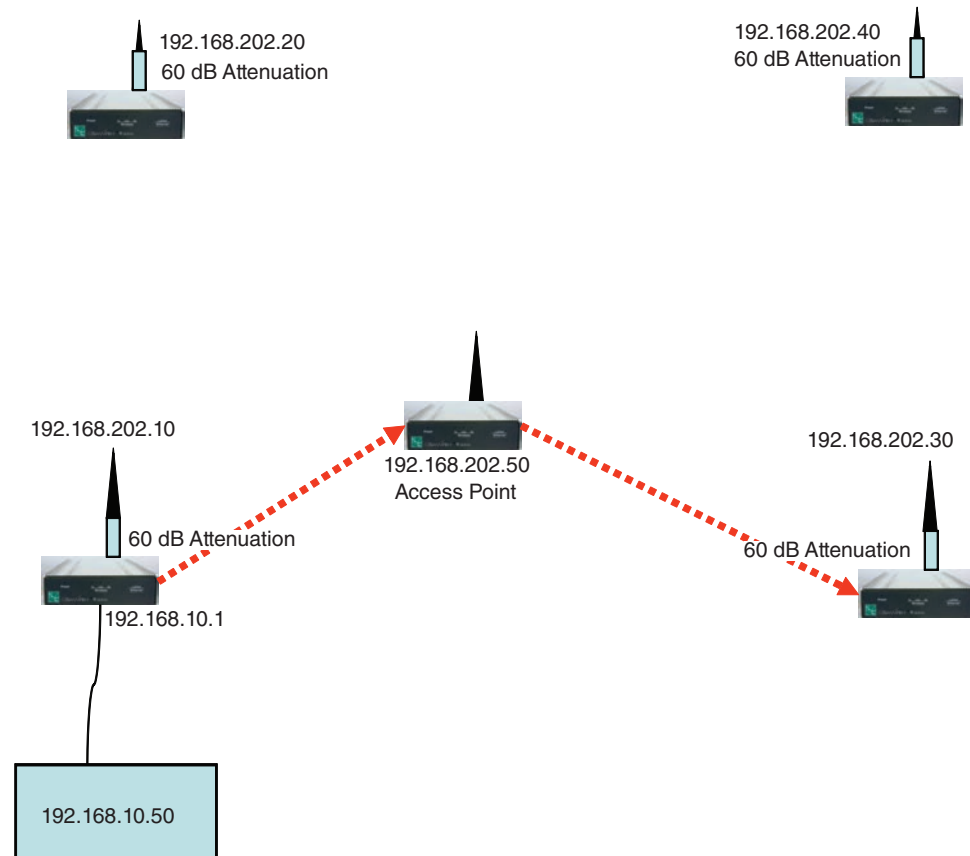

Figure 46. Point-to-multipoint network.
**STEP 5.** See Figure 46. Restore power to the access point (Radio #50).